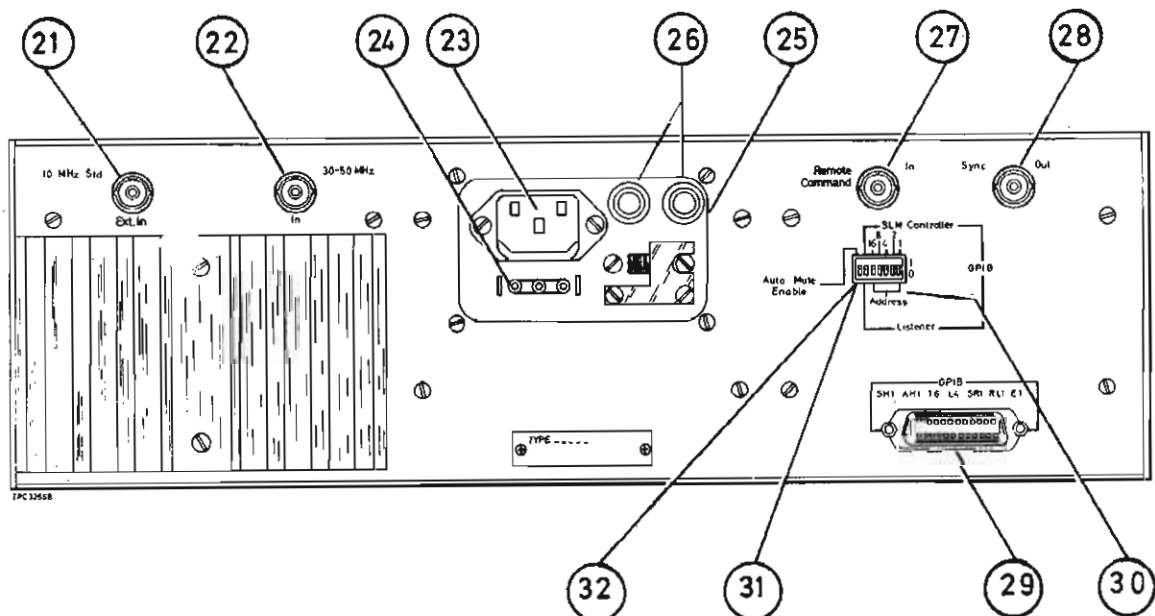

Fig. 2 TF 2356 - Rear panel controls and connectors
12. Rear panel controls and connectors shown in Fig. 2 are as follows:-
(21) 10 MHz STD-EXT IN socket. Provides for an external 10 MHz standard to drive the sender. This may be from the receiver in, for example, synchronous operation. The standard must provide a d.c. path of less than 10 k Ω to disable the sender's internal standard, and a level in the range -10 dBm to 0 dBm at 50 Ω is necessary.
(22) 30 - 50 MHz IN socket. Local oscillator input from TF 2357A used when both instruments are used in Synchronous Operation. Level -10 dBm. Impedance 50 Ω . A d.c. path of less than 10 k Ω must be present to disable the internal oscillator.
(23) AC supply socket. 3-pin a.c. supply input connector.
(24) DC supply socket. 3-pin socket for connection to battery.
(25) Supply voltage selector. 230 V position for 190-260 V, 115 V position for 95 to 130 V. To change range, reverse locking plate.
(26) Supply fuses. 400 mA for 190-260 V range, 800 mA for 95-130 V range. Versions -302Y, -303N are single-fused.